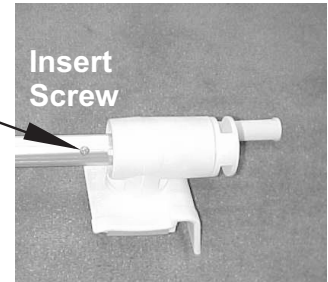

Fig. 6
- Attach each end to tube by installing one self-drilling screw through drill line, 1" (2.5 cm) from the tube end at BOTH ends (see Fig. 6).